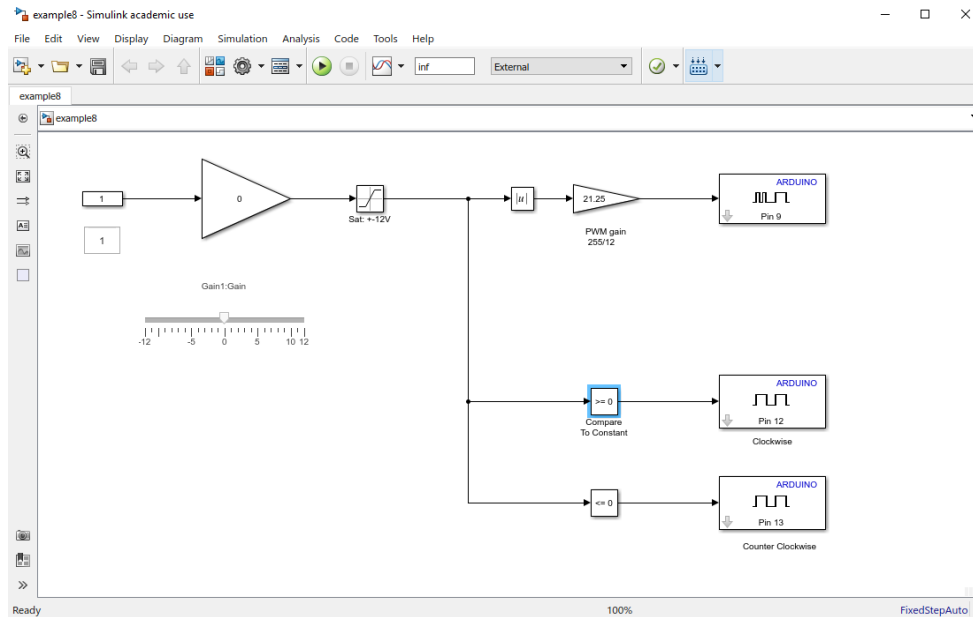

Figure 3.8: PWM Motor Drive
2. Drag and drop an “Arduino PWM” block from *Simulink Support Package for Arduino Hardware* and specify the PWM pin number in the block parameters (e.g. pin 9). Drag and drop a “digital output” block from *Simulink Support Package for Arduino Hardware* and specify the pin numbers that will be connected to IN1 and IN2 (e.g. D12). See Fig. 3.8.